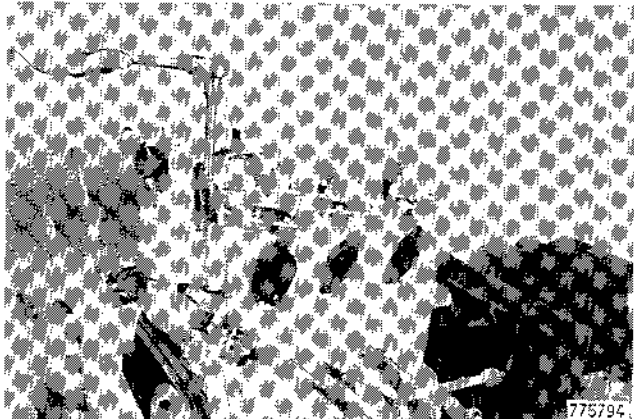

Figure 173
15. Install the cap screw that retains the injector return tube clamp, Figure 173.